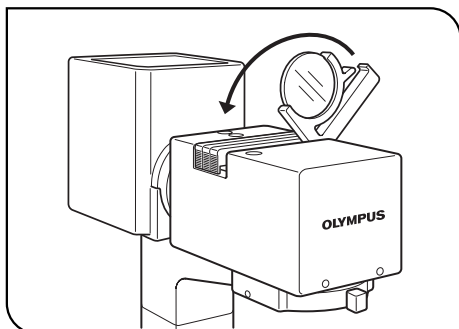

Fig. 25
3. Engage each filter in the light path by moving the filter holder in the direction of the arrow. (Fig. 25)